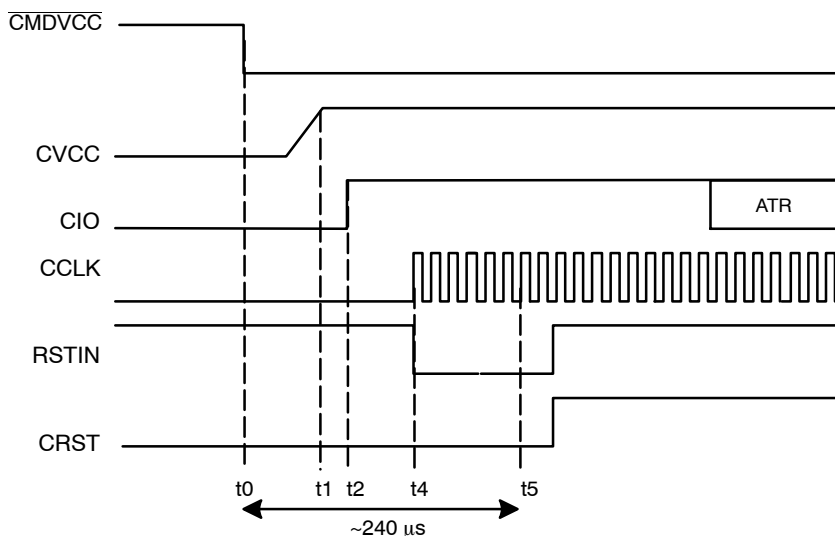

Figure 4. Activation Sequence – RSTIN Mode (RSTIN Starting High)
The clock can also be applied to the card using a **RSTIN mode** allowing controlling the clock starting by setting RSTIN Low (Figure 4). Before running the activation sequence, that is before setting Low $\overline{\text{CMDVCC}}$ RSTIN is set High. The following sequence is applied:
- Between t₂ (Figure 4) and t₅ = 240 μs , RSTIN is reset to LOW and CCLK will start precisely at this moment allowing a precise count of clock cycles before toggling CRST Low to High for ATR (Answer To Reset) request.